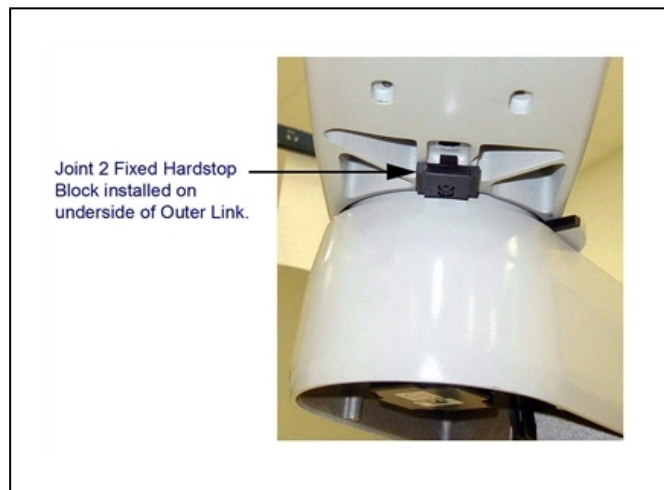

Figure 5-17. Fixed Hardstop Block for Joint 2 installed on underside of Outer Link
- Slide the fixed hardstop device into the slot on the underside of the outer link. See Figure 5-17.